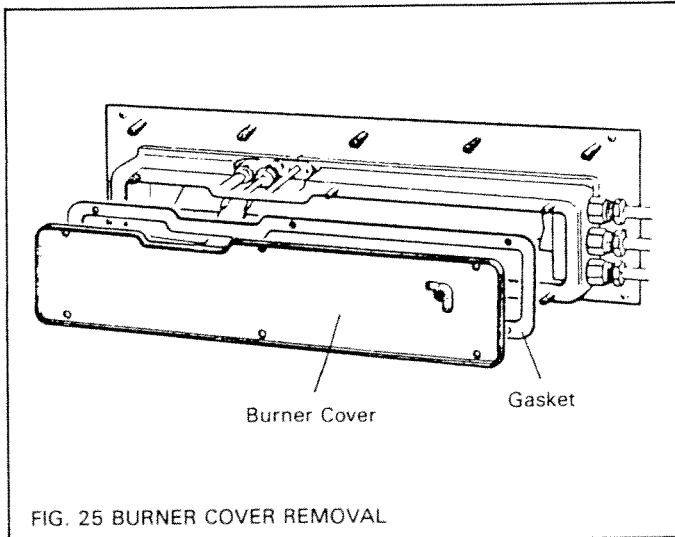

FIG. 25 BURNER COVER REMOVAL
- (a) Remove the six wing nuts from the burner box front panel (see fig. 25).